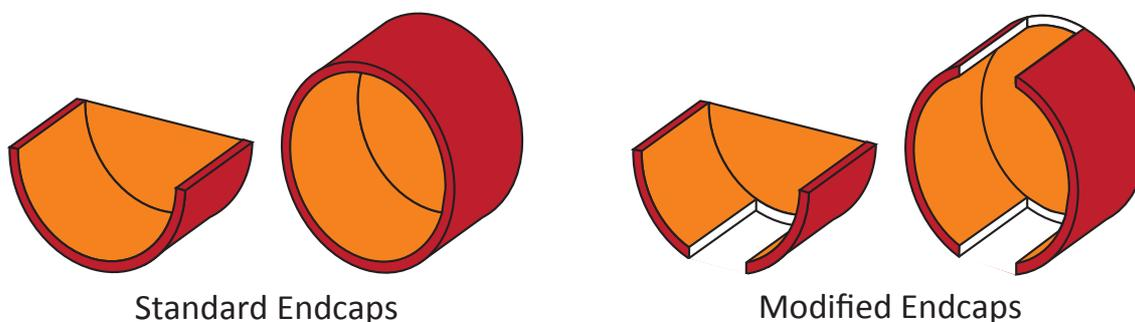

Figure 17-3. Cut away endcaps to improve quality of P-wave velocity and gamma density data.
V. 5 - Corer endcaps (Figure 17-3).
A, B & C. Ideally cores should be logged without endcaps, internal endcaps are a viable second choice (i.e. for soupy cores) and a third alternative is to make cut outs in the endcaps as shown in Figure 17-3. One solution, often employed, is simply to discard the data around the end caps. This is hardly satisfactory as the user could be discarding up to 10% of the data. Most users who adopt this technique normally find that the most interesting lithological boundaries occur within the end-cap region of each section!